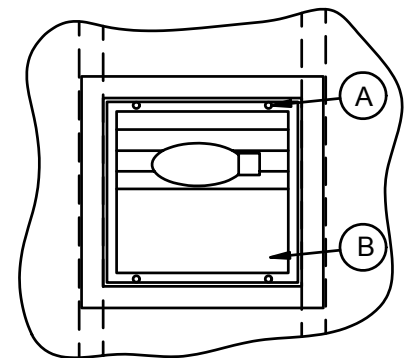

FIG. 2
3. LOOSEN (4) CENTER REFLECTOR SCREWS (A) AND TAKE OUT CENTER REFLECTOR (B), SEE FIG. 2.